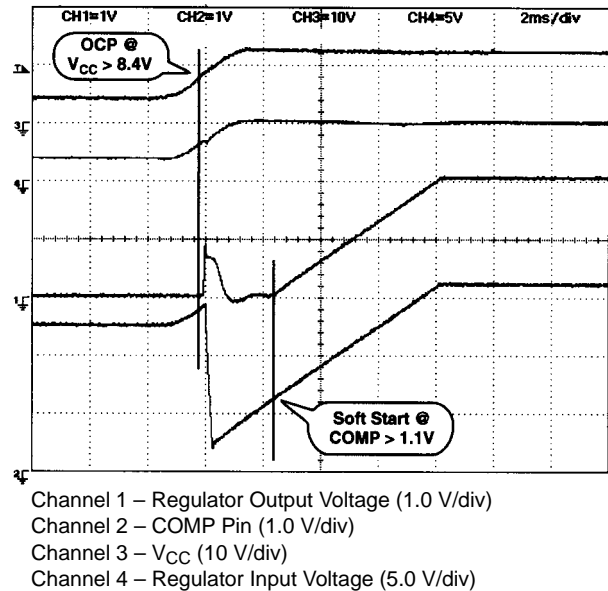

Figure 13. Startup with COMP Pre-Charge to 2.0 V (2.0 ms/div)
If the voltage across the Current Sense resistor generates a voltage difference between the V_{FB} and V_{OUT} pins that exceeds the OVC Comparator Offset Voltage (86 mV typical), the Fault latch is set. This causes the COMP pin to be quickly discharged, turning off GATE(H) and the upper NFET since the voltage on the COMP pin is now less than the 1.1 V PWM comparator offset. The Fault latch is reset when the voltage on the COMP decreases below the discharge threshold voltage (0.25 V typical). The COMP capacitor will again begin to charge, and when it exceeds the 1.1 V PWM comparator offset, the regulator output will Soft Start normally (see Figure 13).